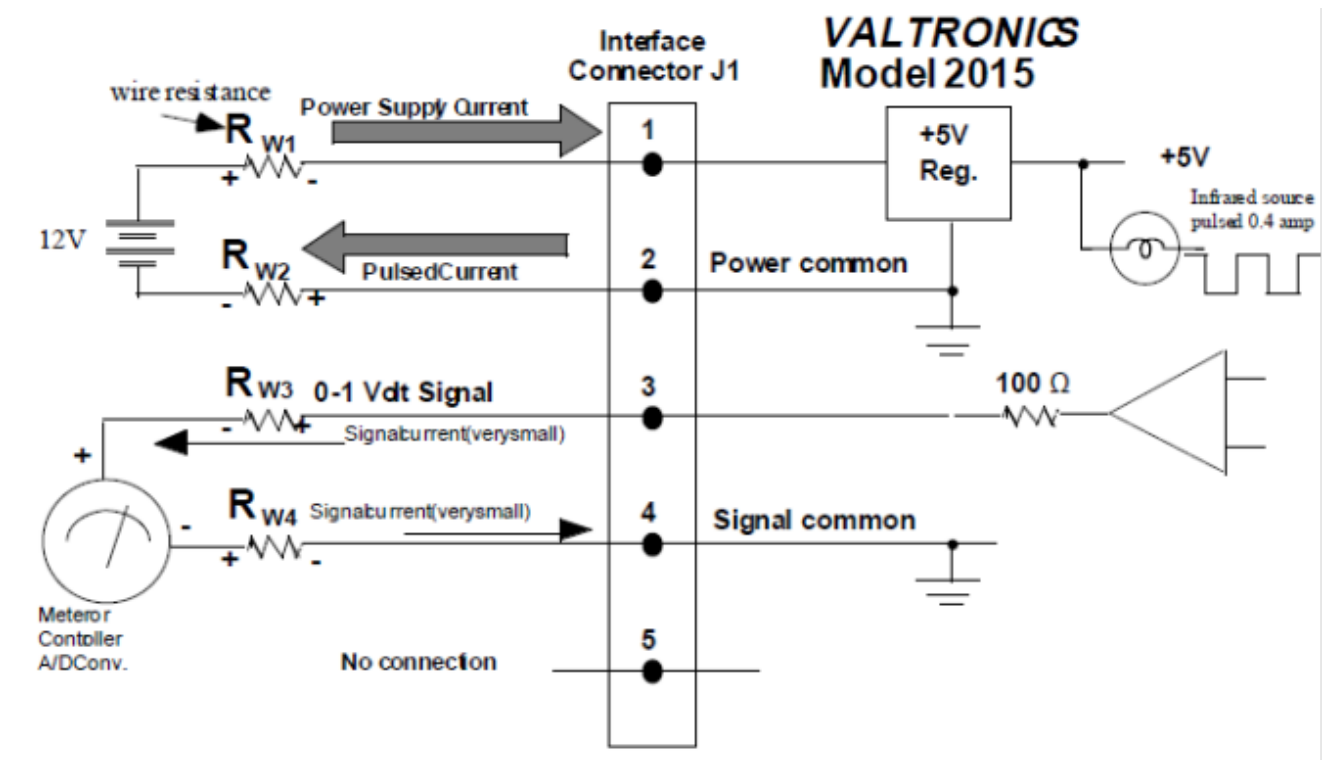

FIG. 2
1. How to avoid Ground Loops: As seen in FIG. 2, you should keep the power supply circuit and the signal circuits separated. Even though the Power common and the Signal common are tied together on our printed circuit board, you must run separate wires for each one and make sure that the Power common wire is a large wire gauge and as short as possible. The object is to prevent the pulsed power supply current from getting into the signal path. The power supply current pulses, created by the infrared source turning on and off every 1.4 seconds, will follow the path of least resistance (represented by RW1 and RW2, the resistance of the wires). The current flowing through the wire resistance creates a voltage drop (current times resistance) that would appear to be noise if the two loops were connected together. This is classically called a ground loop problem.